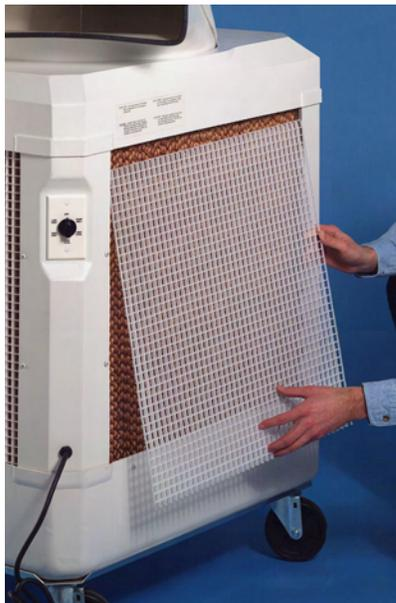

Figure PF-10
6. Remove the cooling pads from all four sides of the unit. Place a putty knife or large, flat-bladed screwdriver under the pad to lift it up, then outward. With one pad out, the rest can be easily removed by placing one hand on the pad's inside, your other hand on the outside and lifting the pad up and out from the bottom. (*See Figure PF-10*).